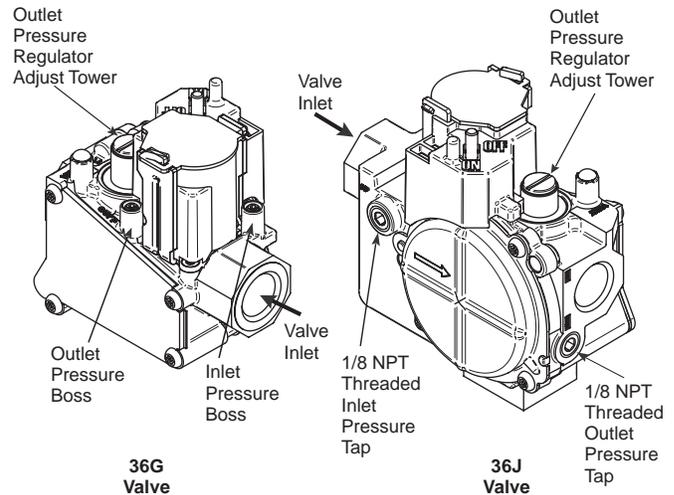

Figure 4
2. Some models feature pressure tap bosses that eliminate the need for a separate fitting when checking pressure (See Figure 4). If valve is equipped with pressure tap bosses, back outlet pressure test screw out one turn (counterclockwise, not more than one turn). For models with 1/8 NPT threaded taps, the outlet pressure tap plug will need to be removed and a separate hose fitting installed.
3. Attach a hose and manometer to the outlet pressure boss of the valve (see fig. 4).